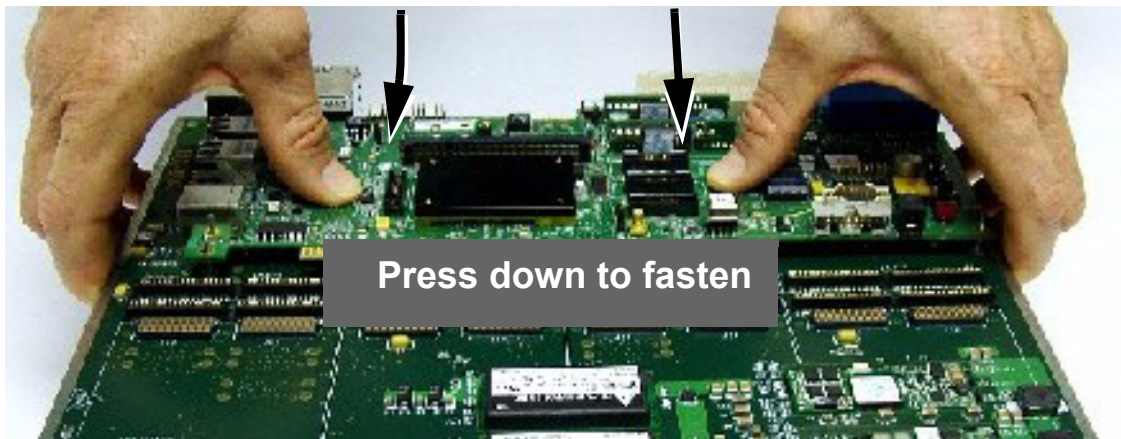

Figure 2-6 Connect Processor board to PIB and press down with fingers
3. Connect processor board to PIB board as shown in Figure 2-6.
4. Ensure a tight fit by pressing down on the processor board **by hand only** until the pins engage (see Figure 2-6)